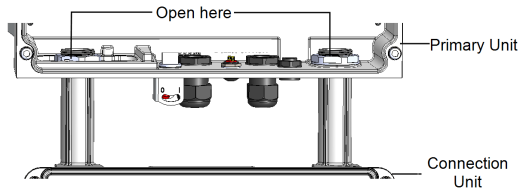

Figure 48: Conduit nuts
6. Unscrew the two conduit nuts in the Primary Unit securing the Connection Unit to it, see *Figure 48*.